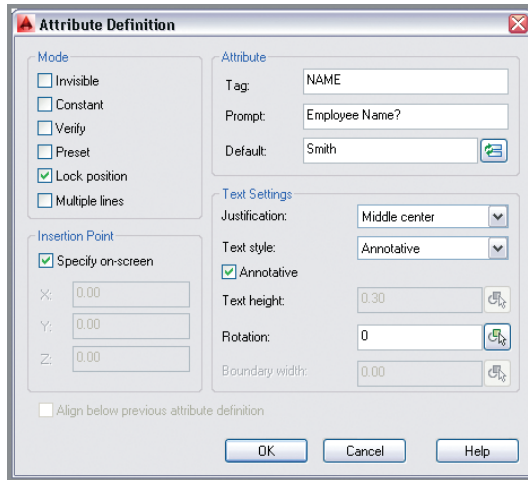

FIGURE 15.8 Specifying the properties of an attribute definition
8. Expand the Block panel, and click the Define Attributes tool to open the Attribute Definition dialog box. Type **NAME** as the tag, **Employee Name?** as the prompt, and **Smith** as the default. Set Justification to Middle Center and Text Style to Annotative (see Figure 15.8).